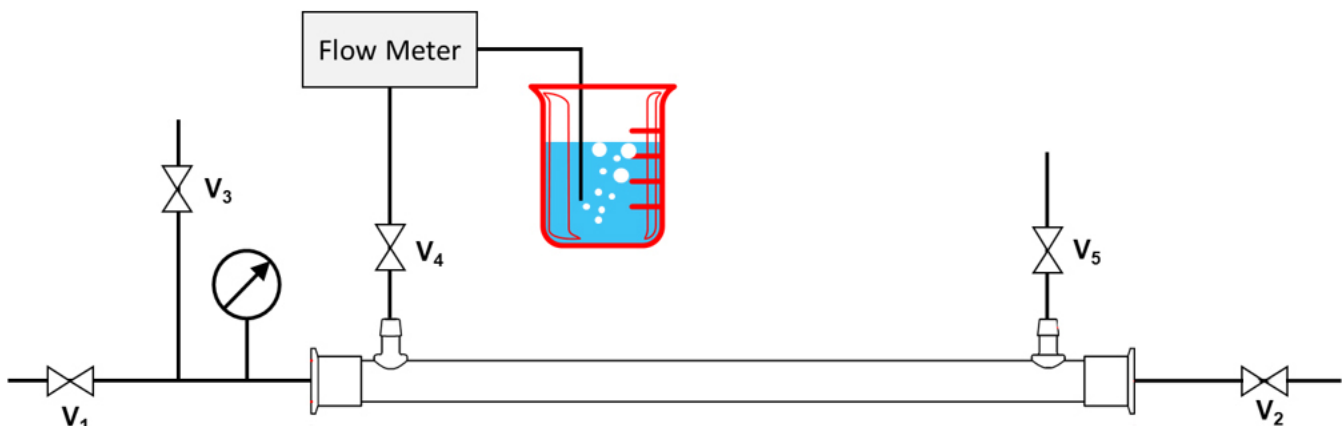

Figure 4: Bubble Point Test schematic.
1. A system setup for performing the bubble point test is shown below in Figure 4.